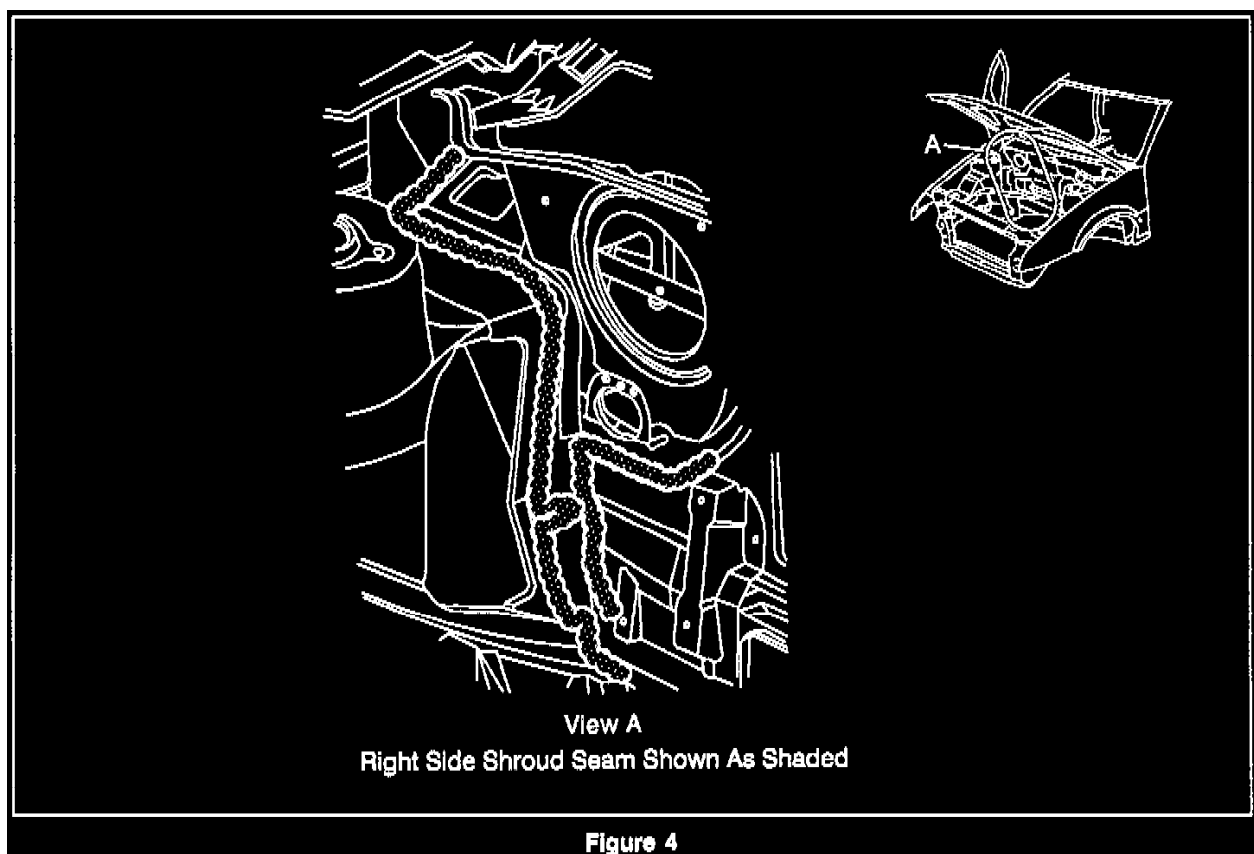

Figure 4
3. Sealer skip/void or spot weld burn through at the right side shroud seam. Refer to Figure 4.	1. Inspect for a skip or void in the right side shroud seam sealer or for spot weld burn through. 2. Apply clear sealer to any skip or void in the right side shroud seam sealer or to any spot weld burn through. 3. Allow sealer to dry. 4. Direct water over the right side shroud seam. 5. Inspect from passenger compartment for leaks.